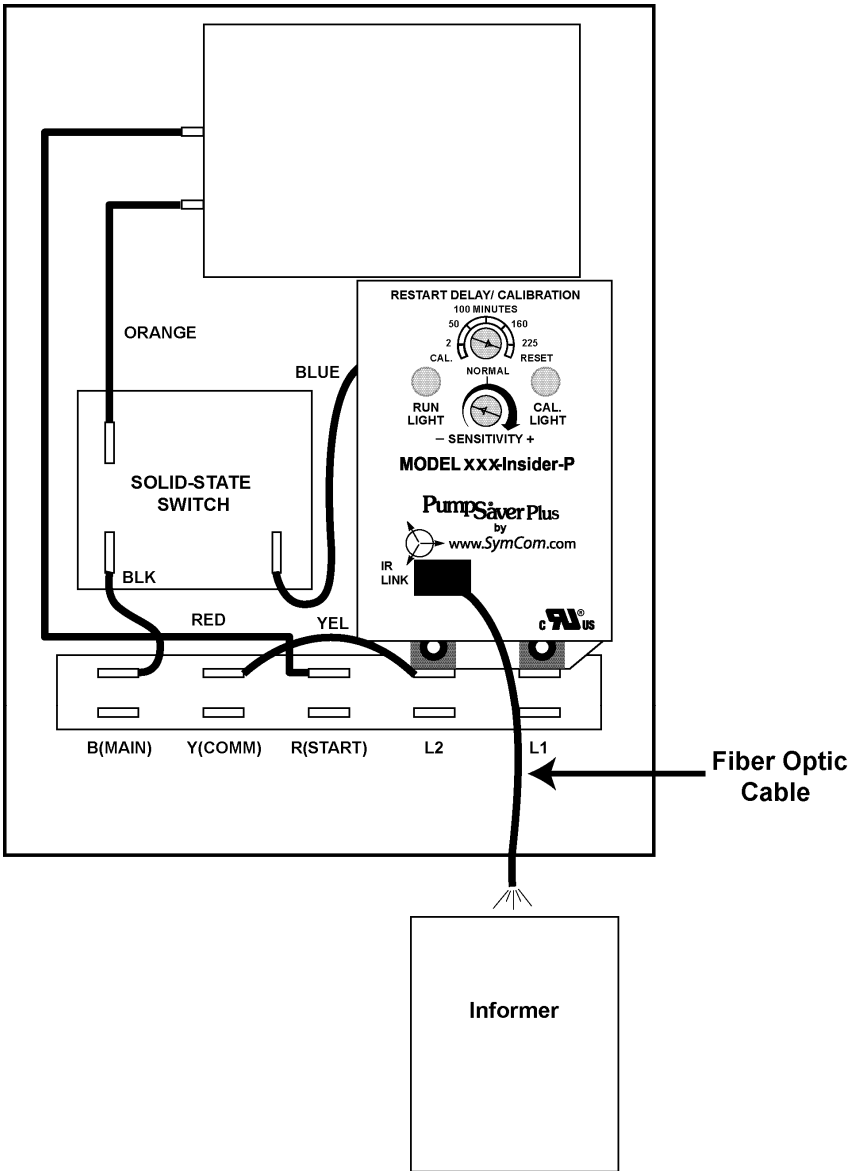

**Figure 8: Location of Rapid-Cycle Jumper**
1. Locate the Rapid-Cycle Jumper in the upper-right corner behind the faceplate of the PumpSaver®Plus. See Figure 8 for location of jumper.
2. Remove the Rapid-Cycle Jumper (See Figure 8). The jumper may be removed before or after initial installation.